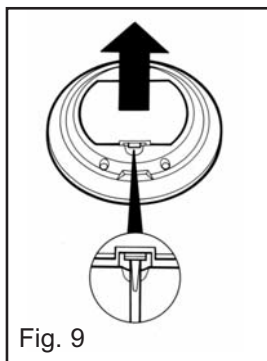

Fig. 9
- Remove the battery cover plate from the rear of the Handset (Fig. 9)